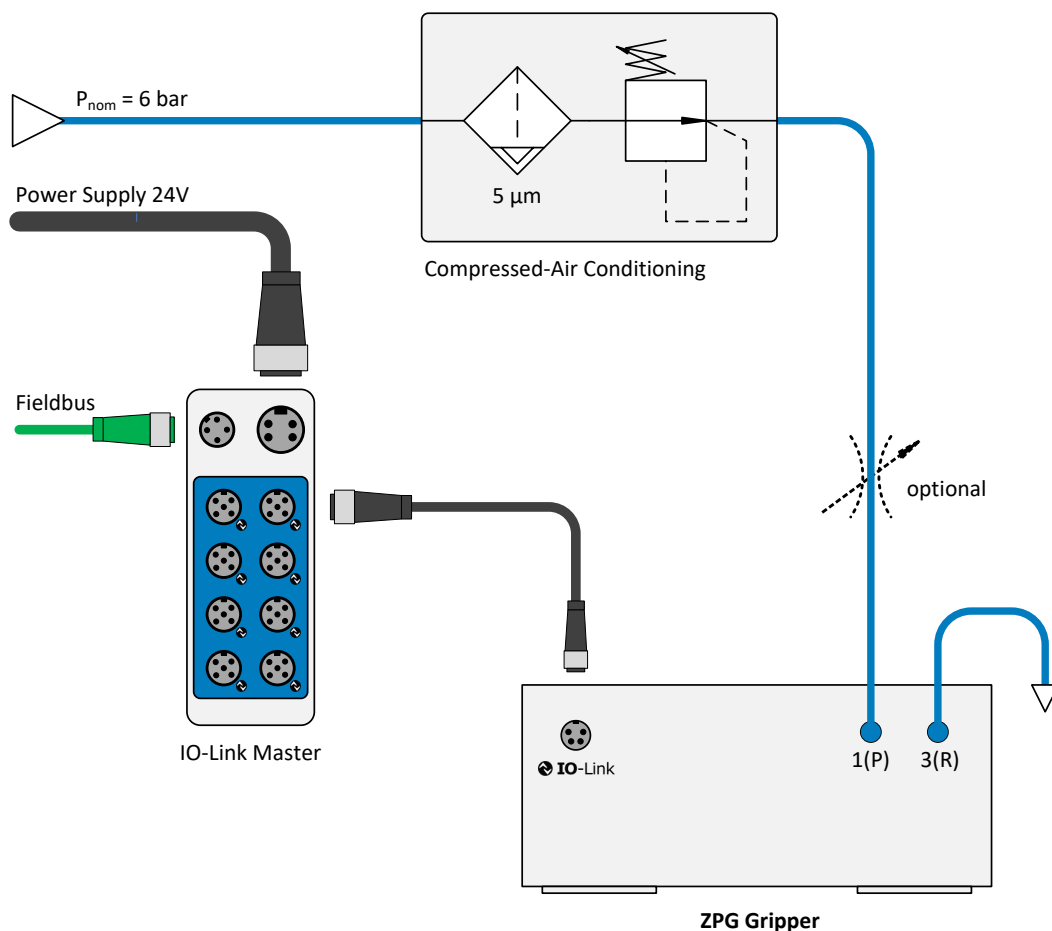

Figure 8: Connecting the gripping module
The gripping module has an IO-Link connection for control and one connector each for operating pressure 1 (P) and exhaust air 3 (R). At delivery, the connectors are covered with caps to prevent contamination. The caps must be removed before assembly. Figure 8 shows the electrical and pneumatic contacts of the gripping module. In this picture, a standard field bus coupler is used for the transition between field bus (e.g. Profinet) and IO-Link. If you need assistance in selecting the IO-Link components, please contact our technical support.